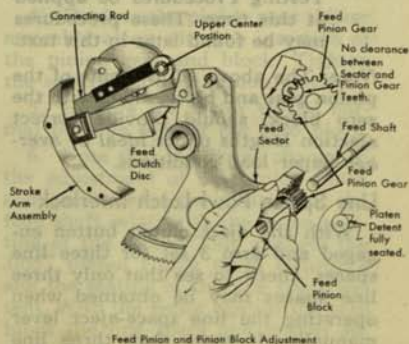

Figure 23
2. The feed pinion gear and block and pinion gear shifter assembly are to be inserted into position at this time (Figure 23).
- 1 With Sector Advanced to End of Stroke (upper dead center), adjust the relation of pinion gear teeth to sector teeth (Figure 23) to obtain following relative conditions.